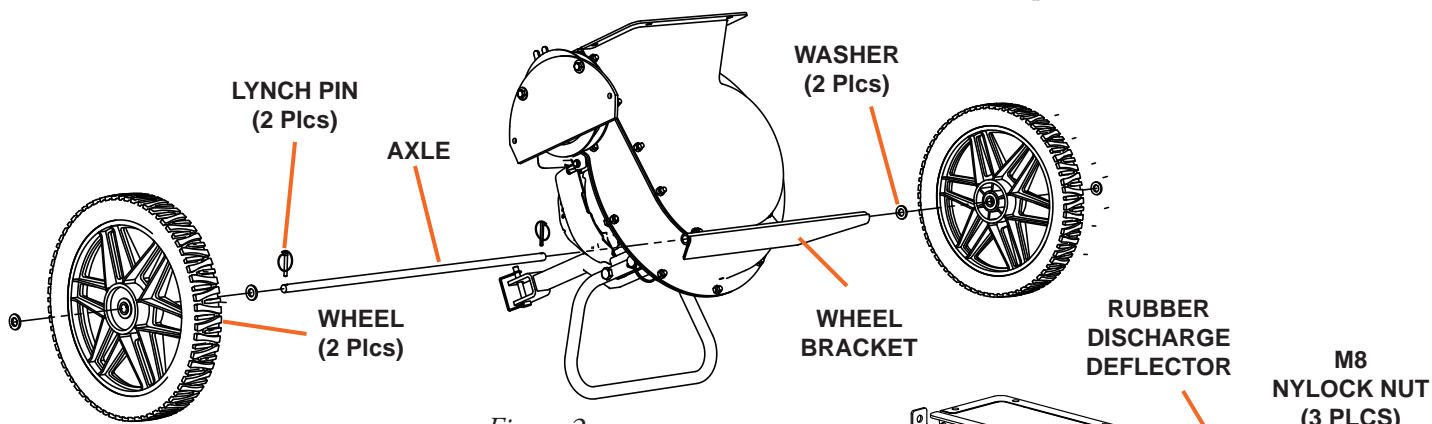

Figure 2
2. Attach Wheels (see Figure 2).